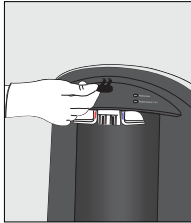
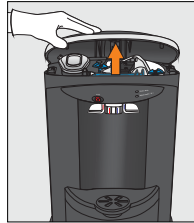

Figure 32
Figure 33
5. Insert the **access key** into the 2 holes located at the underside of the top edge of the cooler (above water levers) and push inwards (Figure 32 and Figure 33)(once unlocked, the front of the top cover opens upwards)